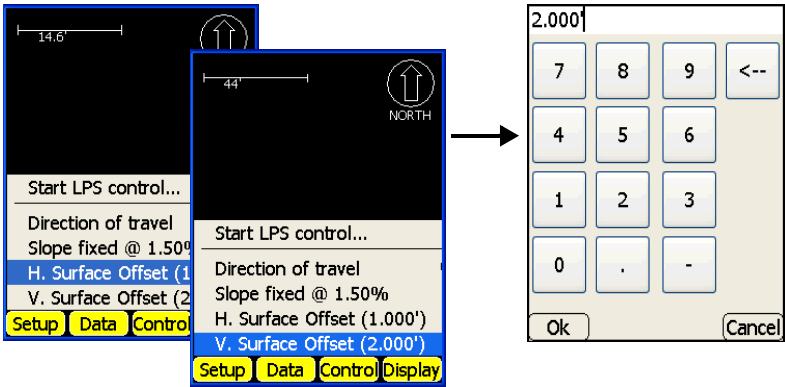

Figure 5-26. Apply a Horizontal/Vertical Offset
1. To add a horizontal/vertical offset to a surface, tap **Control ▶ H. Surface Offset** or **Control ▶ V. Surface Offset** (Figure 5-26 on page 5-18).